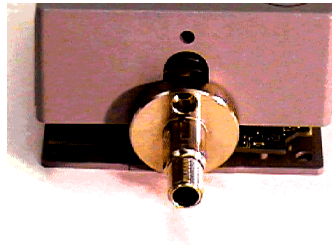

Figure B-5 Positioning the Sensor
8. Rotate the sensor so the Allen screw anchor hole is at the top of the assembly and is visible through the hole in the cover as shown in Figure B-5.